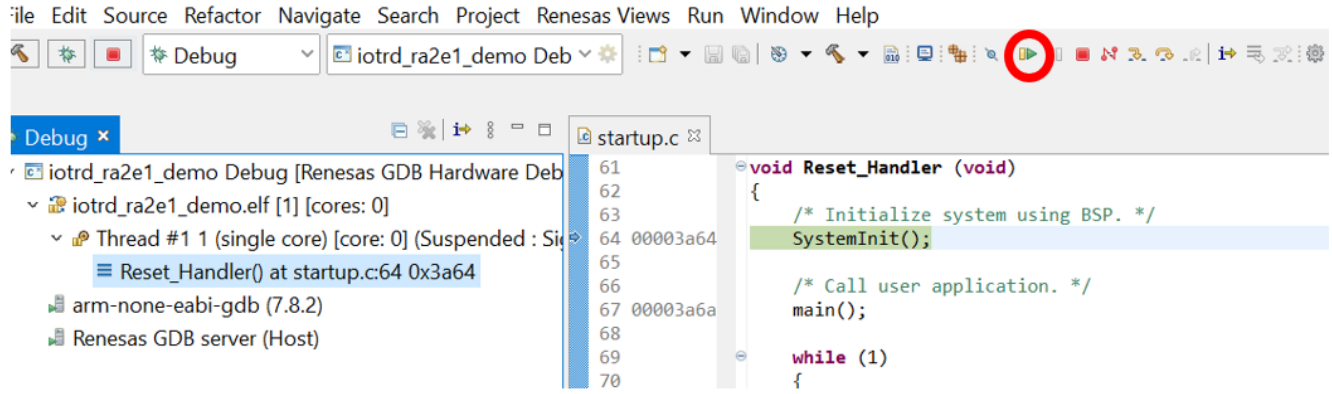

Figure 8. Application Startup Window
5. When completed, click **Resume** twice to start the application (see Figure 8).